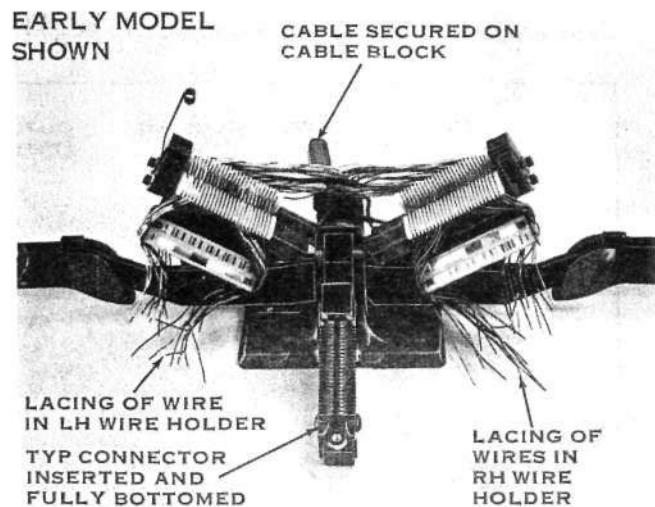

Fig. 3
3.07 Starting toward center of Tool, take wires for one side and then the other side. Lace each wire through outer comb (rear) and corresponding position in inner comb (front). Then bend at right angle under inner comb and around inside of guide support, while keeping wires taut. Make certain wires are parallel and color code corresponds to color bar. (See Fig. 3.)